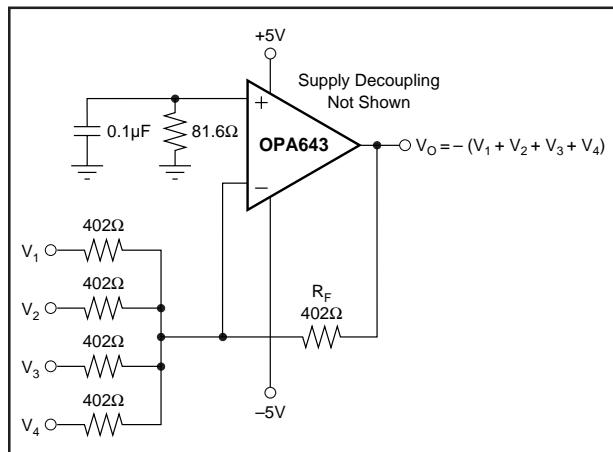

FIGURE 4. Wideband Inverting Summing Amplifier.
One common application for a wideband op amp like the OPA643 is to sum a number of signal sources together. Figure 4 shows the inverting summing configuration that is most often used. This circuit offers the benefit that each input sees an input impedance set only by its individual input resistor, since the summing junction (inverting op amp node) is a virtual ground. Each input is non-interactive with every other. However, the bandwidth from any input to the summed output is set by the op amp noise gain (NG), equal to the non-inverting voltage gain. So, even though each inverting channel may have a low gain to the output (like the  $-1$  shown in Figure 4), the overall noise gain will set the frequency response and the loop stability. The non-inverting gain for Figure 4 is equal to  $+5$  which will give a 200MHz bandwidth at a gain of  $-1$  for each of the input signals.